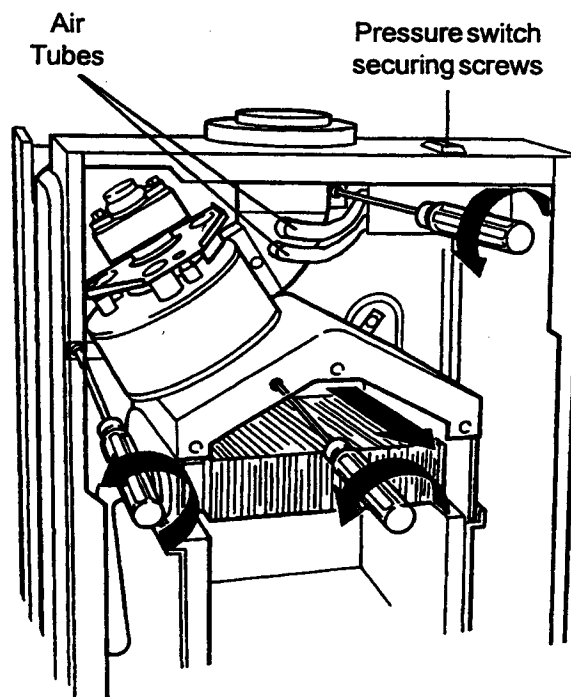

Fig. 29
Refer to fig. 29.
- 8.9.4 Unscrew maintenance clip securing screws and remove clip (fig. 29)
- 8.9.6 Remove 3 flue hood retaining screws. fig. 29
Refer to fig. 29
- 8.10.2 Remove 2 pressure differential switch securing screws (fig. 29).